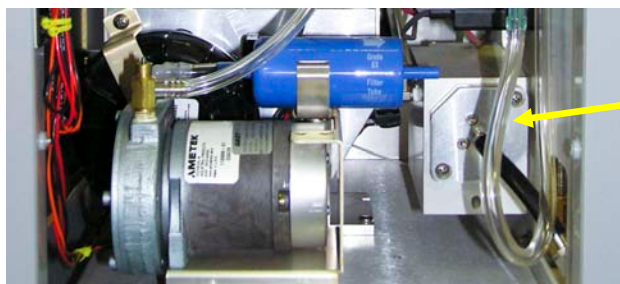

Figure 6-9
2. Access the instrument from the front and locate the electrometer at the bottom of the device next to the pump as shown in Figure 6-9.